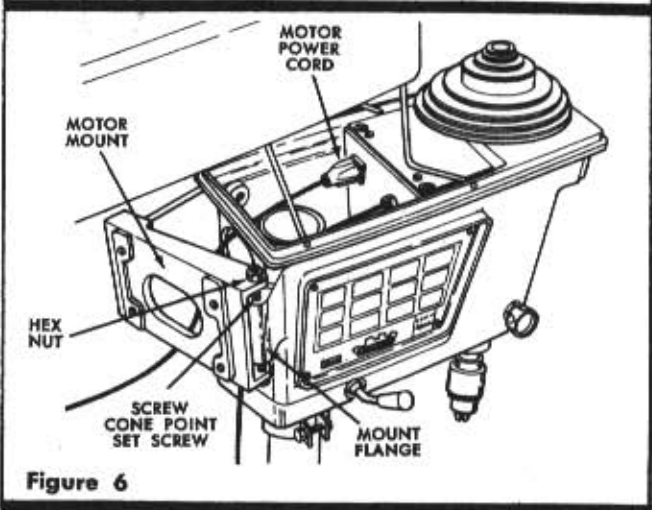

Figure 6
2. Align cone point set screws with holes on the mount flange at rear of drill press head (see figure 6). Using hex wrench, tighten cone point set screws one at a time until motor mount is centered on mount flange.
10. Connect the motor power cord to the outlet on the electric support assembly. (See figure 6).